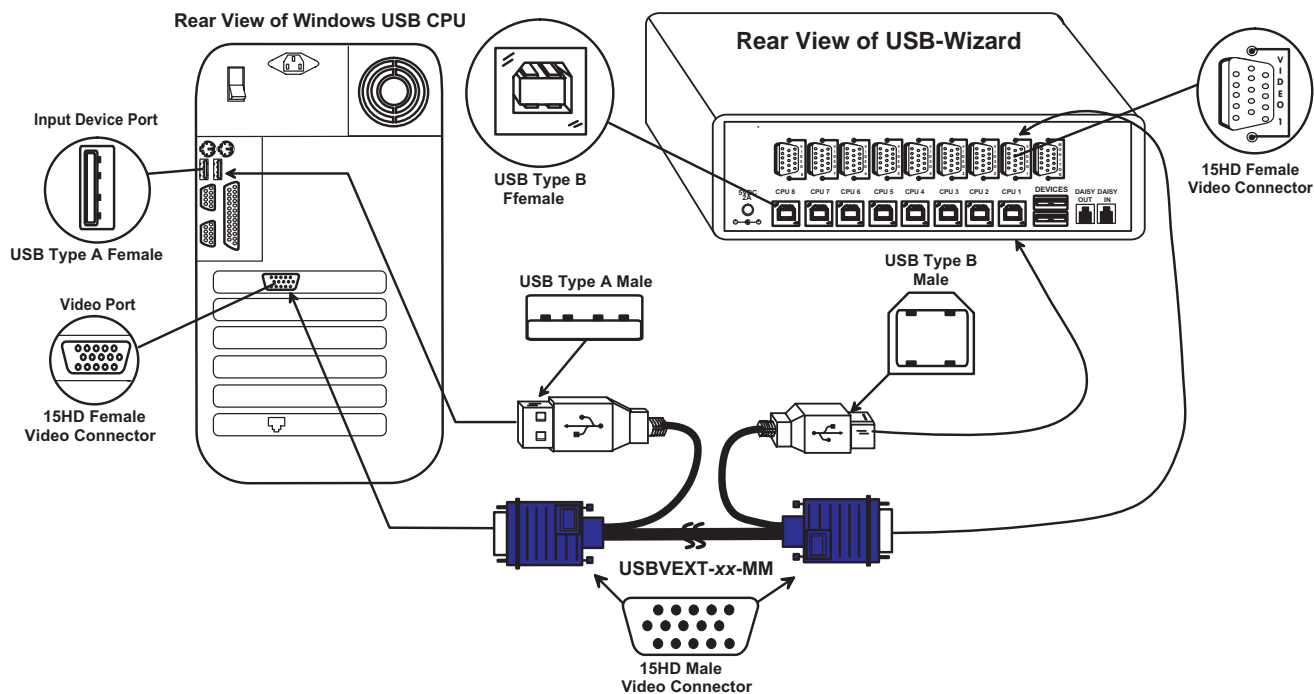

Figure 4- Connect each CPU
7. Connect each CPU to the USB Wizard using a USBVEXT-xx-MM video and input device interface cable – REQUIRED (not supplied). (See Fig. 4 below.)